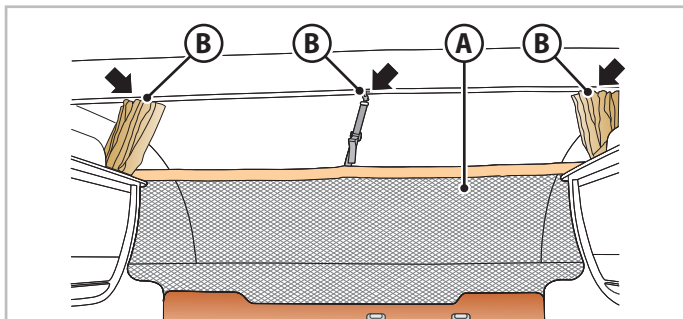
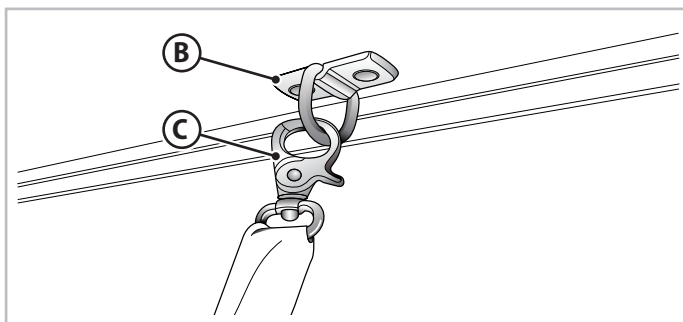

Fig. 6.22 - Protective net for pull-down bed over dinette
Fig. 6.23 - Protective net hook
- Secure the protective net (**A** - Fig.6.22) using the hooks (**B** - Fig.6.22 and Fig.6.23) the rings designed for this purpose (**C** - Fig.6.23).